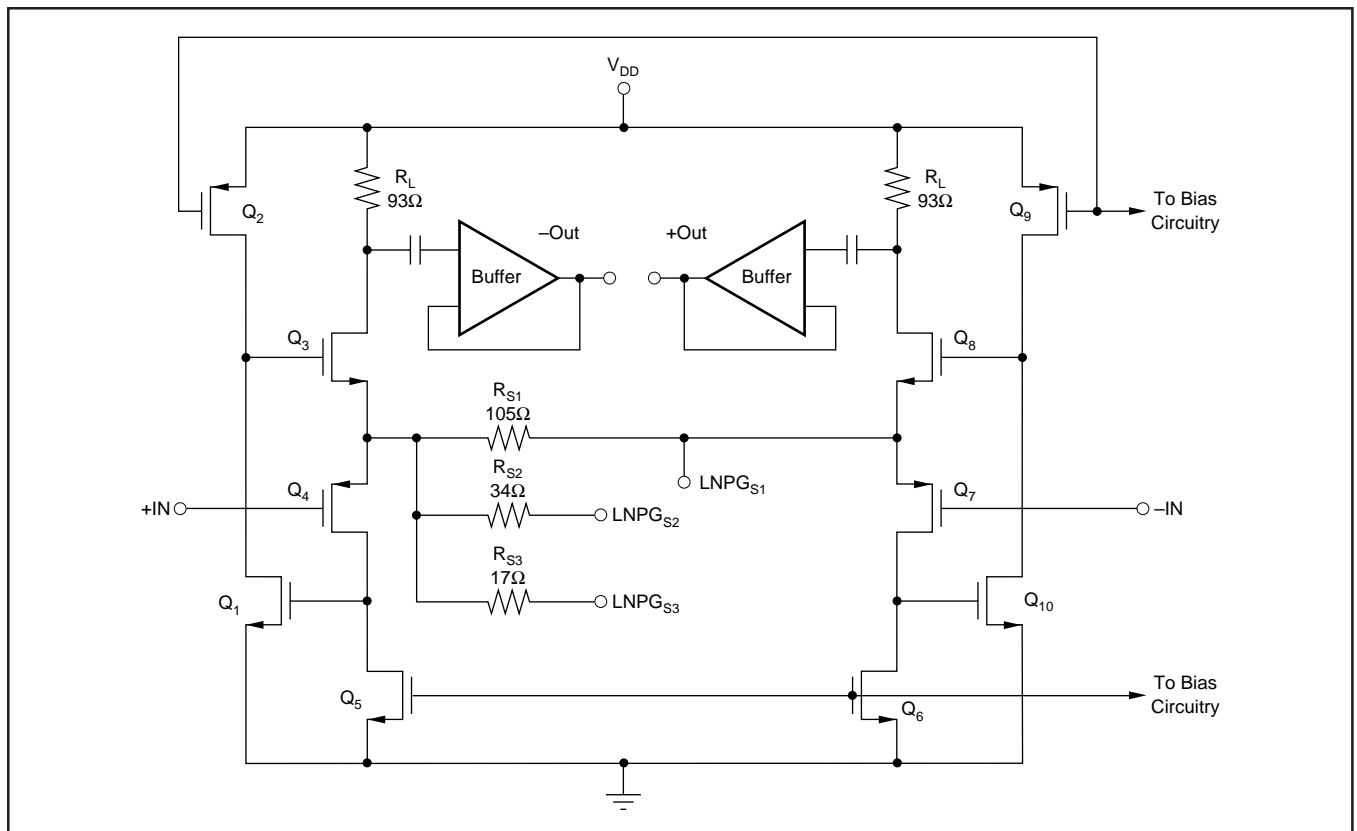

FIGURE 4. Schematic of the Low Noise Pre-Amplifier (LNP).
The LNP is designed to achieve a low noise figure, especially when employing active termination. Figure 4 is a simplified schematic of the LNP, illustrating the differential input and output capability. The input stage employs low resistance local feedback to achieve stable low noise, low distortion performance with very high input impedance. Normally, low noise circuits exhibit high power consumption due to the large bias currents required in both input and output stages. The LNP uses a patented technique that combines the input and output stages such that they share the same bias current. Transistors Q4 and Q5 amplify the signal at the gate-source input of Q4, the +IN side of the LNP. The signal is further amplified by the Q1 and Q2 stage, and then by the final Q3 and R_L gain stage, which uses the same bias current as the input devices Q4 and Q5. Devices Q6 through Q10 play the same role for signals on the -IN side.
It is also possible to create other gain settings by connecting an external resistor between LNPG_{S1} on one side, and LNPG_{S2} and/or LNPG_{S3} on the other. In that case, the internal resistor values shown in Figure 4 should be combined with the external resistor to calculate the effective value of R_S for use in Equation (1). The resulting expression for external resistor value is given in Equation (2).
where R_{EXT} is the externally selected resistor value needed to achieve the desired gain setting, R_{S1} is the fixed parallel resistor in Figure 4, and R_{FIX} is the effective fixed value of the remaining internal resistors: R_{S2} , R_{S3} or $(R_{S2} \parallel R_{S3})$ depending on the pin connections.
For greatest flexibility and lowest noise, the user may wish to shape the frequency response of the LNP. The COMP1 and COMP2 pins for each channel (pins 10 and 11 for channel A, pins 26 and 27 for channel B) correspond to the drains of Q3 and Q8 in Figure 4. A capacitor placed between these pins will create a single-pole low pass response, in which the effective “R” of the “RC” time constant is approximately 186Ω.